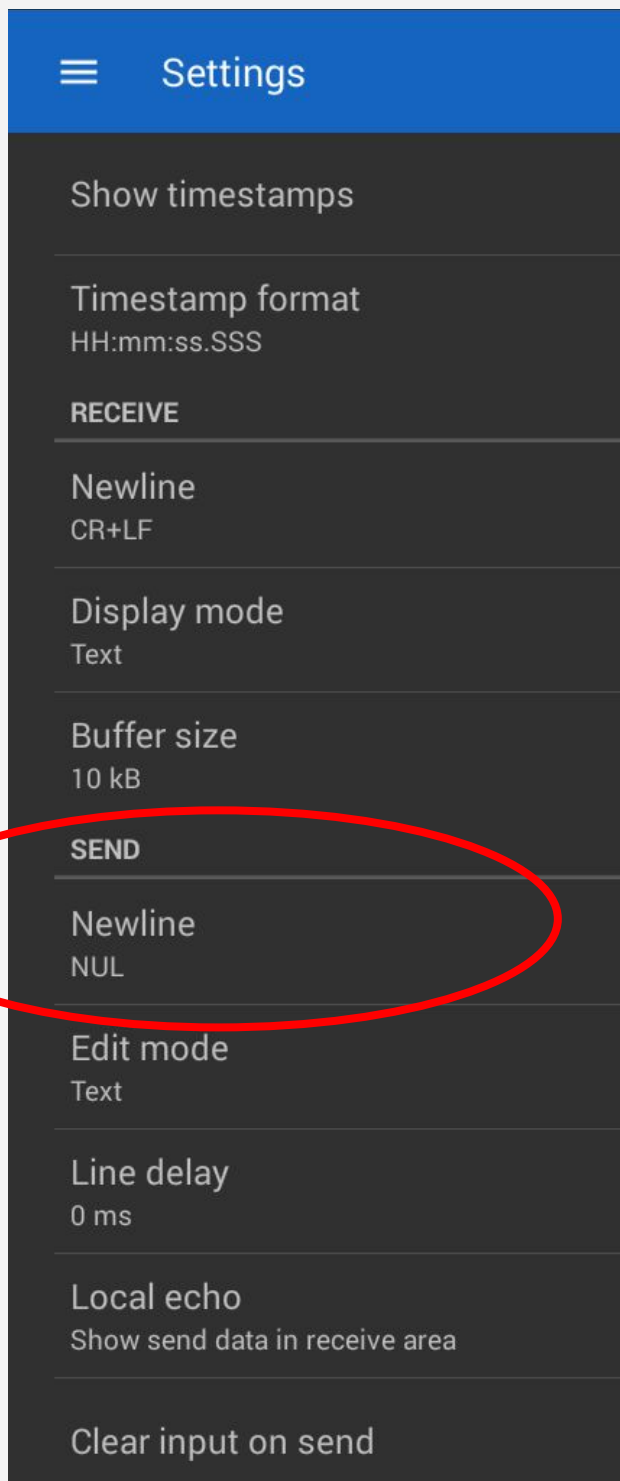
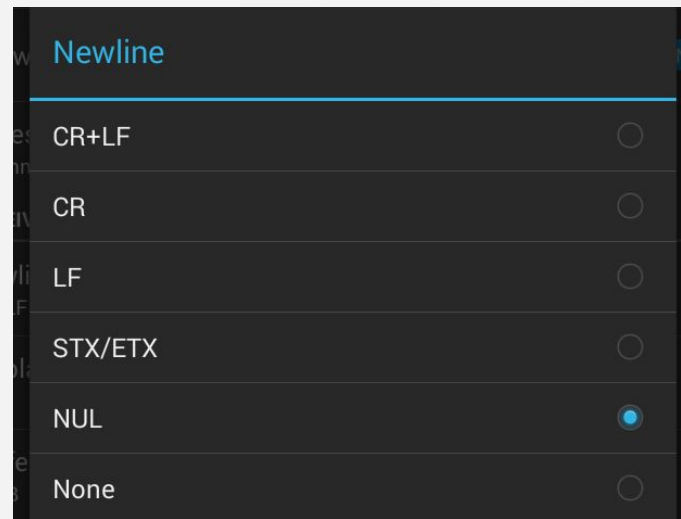

Figure 7
Figure 8
4. Scroll down to the "send" line and find the "newline" field (figure 7), and switch Newline to NUL (figure 8).
Scroll down to the “send” section. Newline should be set to NUL, if not press on Newline, and select NUL on the menu in figure 8.